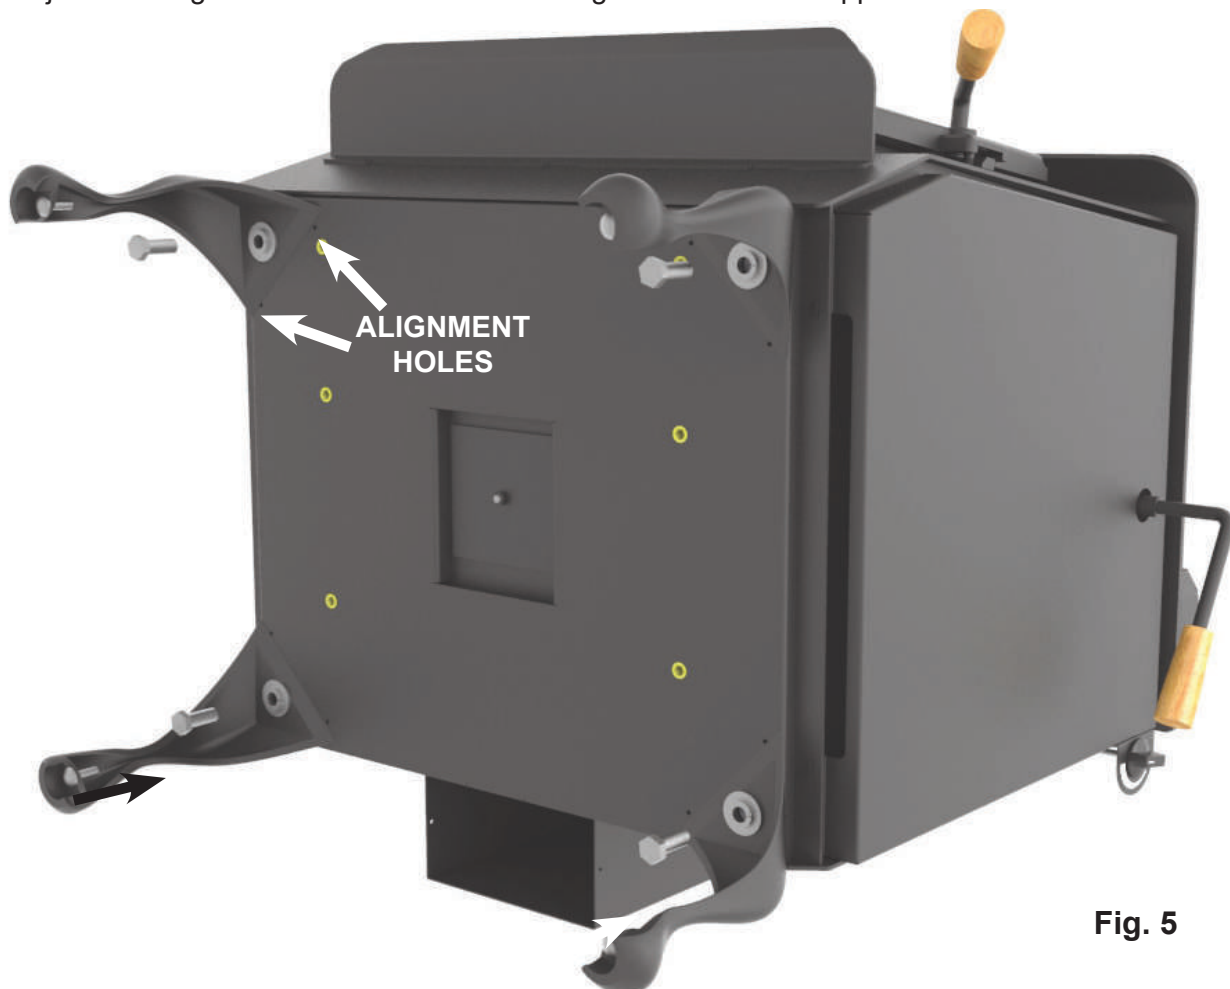

Fig. 5
2. Position each leg accordingly, using alignment holes in appliance base as guides. Fasten the legs to the appliance using the hardware supplied with the kit. (Fig. 5)